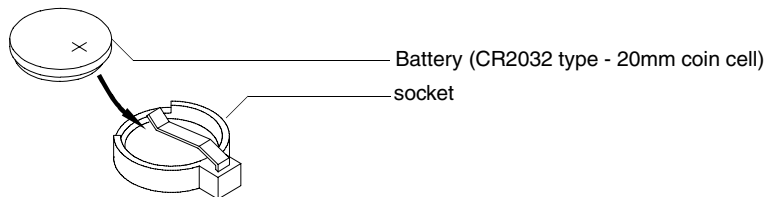

FIG. 10 Lithium battery and socket
5. Carefully slide each battery out of its socket (FIG. 10), and insert the new battery.